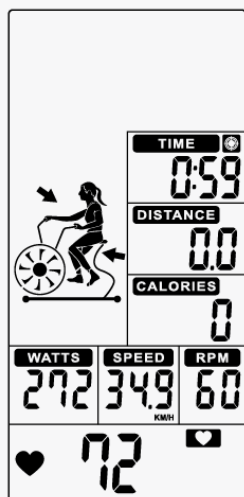

Figure 40
3. Pre-set TIME value counts down, DISTANCE, CALORIES, WATTS, SPEED, RPM start to count up. (Figure 40)